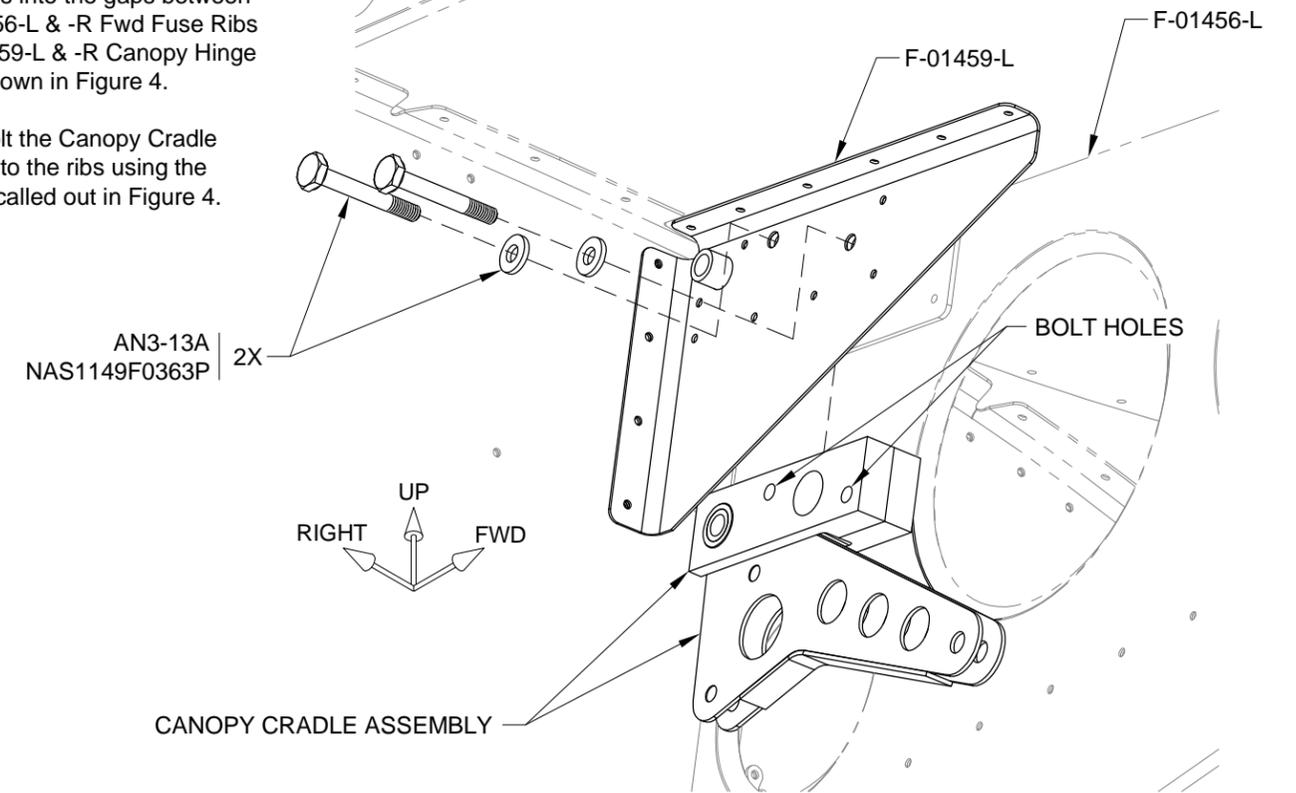

FIGURE 4: INSTALL CANOPY CRADLE ASSEMBLY
Step 6: Slide the Canopy Cradle Assemblies into the gaps between the F-01456-L & -R Fwd Fuse Ribs and F-01459-L & -R Canopy Hinge Ribs as shown in Figure 4.
Step 7: Bolt the Canopy Cradle Assembly to the ribs using the hardware called out in Figure 4.